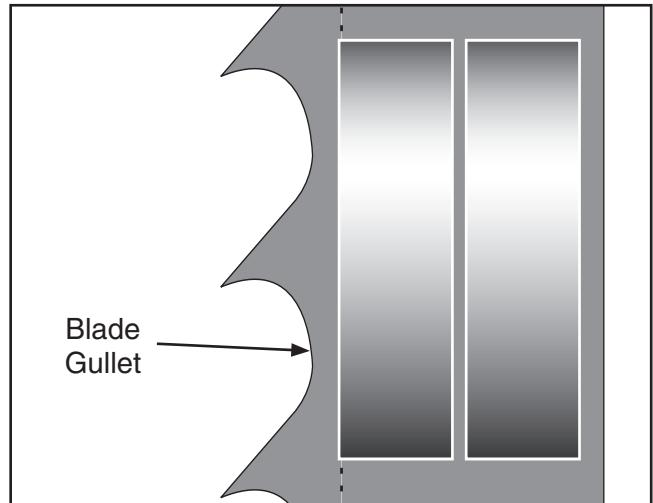

Figure 24. Lateral adjustment of blade guides.
4. Loosen the lateral adjustment rod cap screw, loosen the support bearing adjustment shaft bolt, and adjust the blade guides until the edges of the bearings are $1/16$ " behind the blade gullets, as illustrated in **Figure 24**.